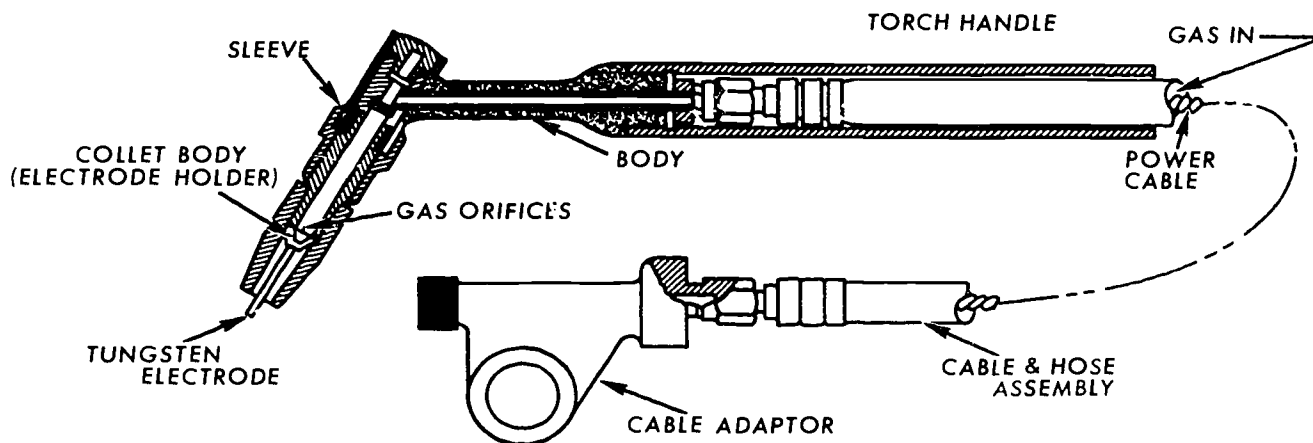

Figure 5-4. Air-cooled, inert-gas-shielded welding torch. 53-908
**Air-cooled torch.** The air-cooled torch, shown in figure 5-4, is designed for manual welding of thin gage metals. It is excellent for weld-repairing thin section jet engine parts. This torch can be used for welding with